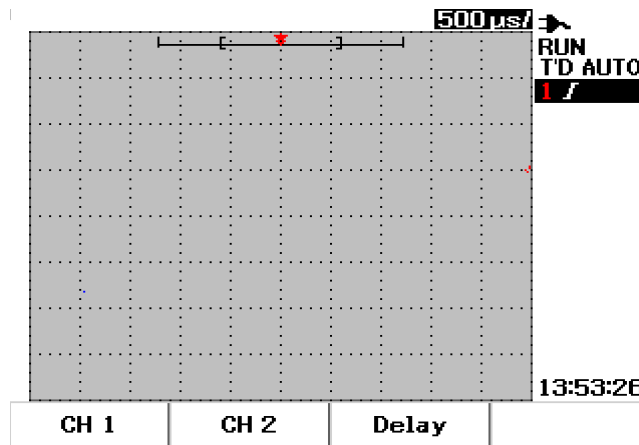

Figure 3-1 Scope menu display with displayed of both channels display.
- 1 Press button on front panel to access Scope menu. You will see the following scope menu display in Figure 3-1., which shows both channels disabled.